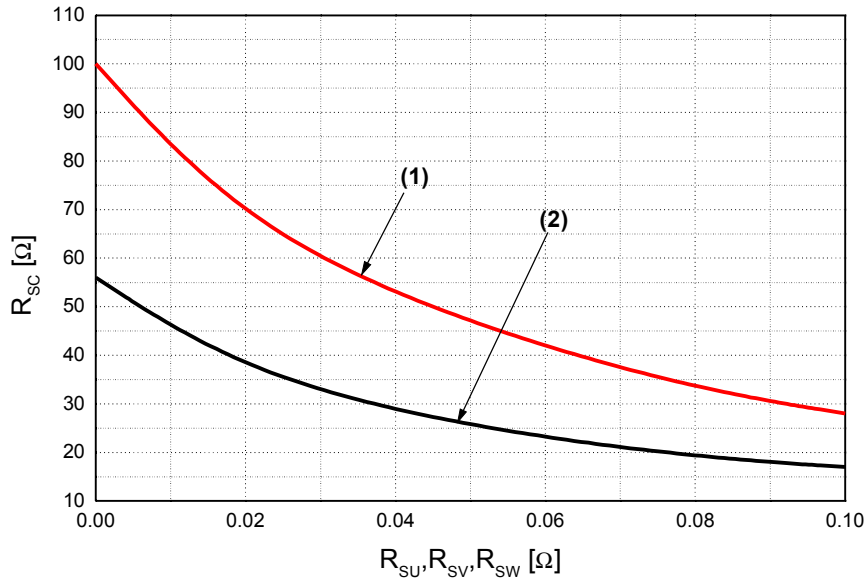

Fig. 7. R_{SC} Variation by change of Shunt Resistors (R_{SU} , R_{SV} , R_{SW}) for Short-Circuit Protection
| Sensing Voltage of IGBT Current | V _{SEN} | R _{SC} = 56 Ω, R _{SU} = R _{SV} = R _{SW} = 0 Ω and I _C = 22.5A (Note Fig. 7) | | 0.45 | 0.51 | 0.56 | V |
- Short-circuit current protection is functioning only at the low-sides. It would be recommended that the value of the external sensing resistor (R_{SC}) should be selected around 56 Ω in order to make the SC trip-level of about 22.5A at the shunt resistors (R_{SU}, R_{SV}, R_{SW}) of 0Ω. For the detailed information about the relationship between the external sensing resistor (R_{SC}) and the shunt resistors (R_{SU}, R_{SV}, R_{SW}), please see Fig. 7.